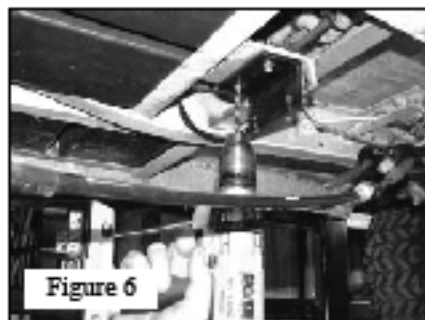

Figure 6
7. Use the 1/4" drill bit to enlarge the second bolt hole in the frame. See figure 6